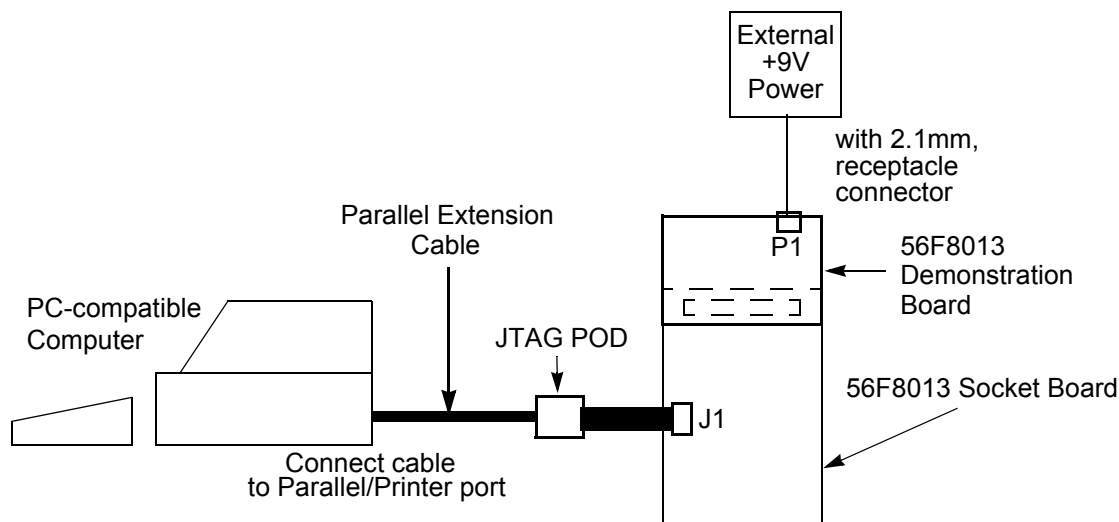

Figure 1-2. Connecting the 56F8013 Socket Board
An interconnection diagram is shown in Figure 1-2, connecting the PC, the external +9.0V DC power supply, the 56F8013 Socket Board and the 56F8013 Demonstration Board.
- Connect the ribbon cable from the JTAG interface POD to J1 on the 56F8013 Socket Board, shown in Figure 1-2. This provides the connection which allows the host computer to download code to the 56F8013 part on the 56F8013 Socket Board.
5. Connect the 2.1mm output power plug from the external power supply into P1 on the 56F8013 Demonstration Board, shown in Figure 1-2.